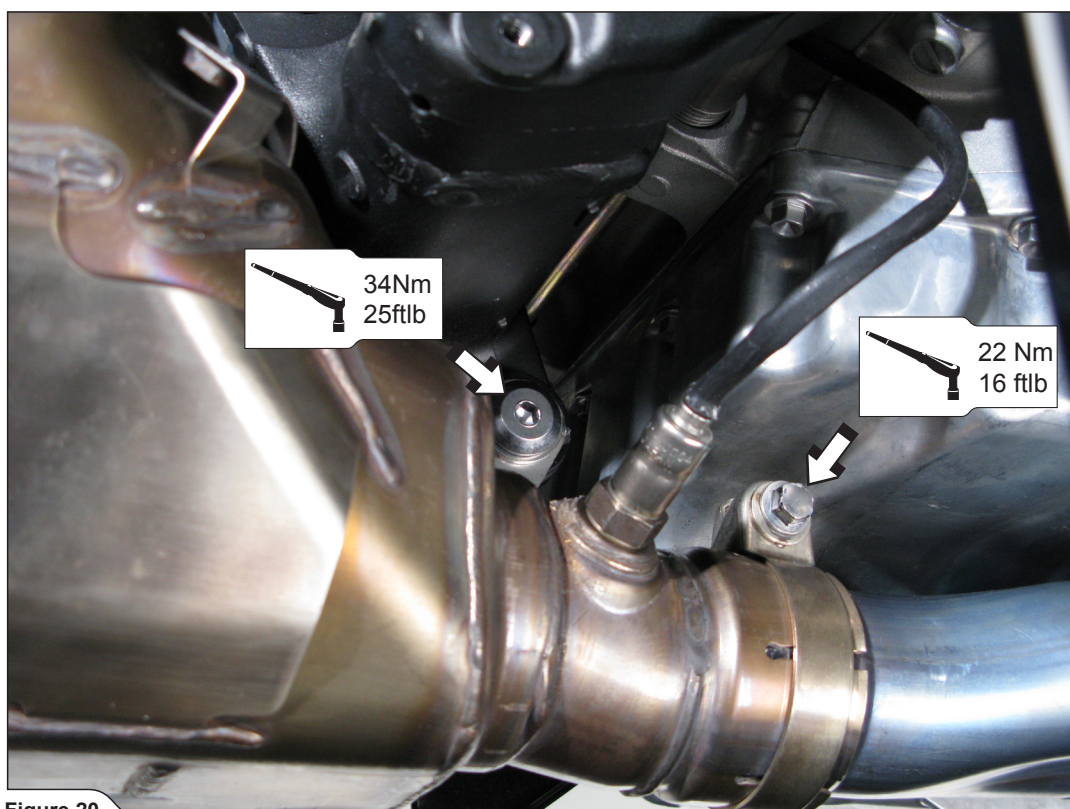

Figure 20
✖ INSTALLATION TIP: in case, the muffler bracket's hole doesn't align with original muffler mounting point, please refer to point 10. (Figure 20)
10. In case, the muffler bracket's hole doesn't level with original muffler mounting point, untighten metal clamp at the collector-headers connection and collector hanging bracket. Adjust the collector together with Akrapovič muffler, until the muffler bracket aligns with original muffler mounting point. Retighten the metal clamp at the collector-headers connection and collector hanging bracket to the specified torques (**Figure 20**).